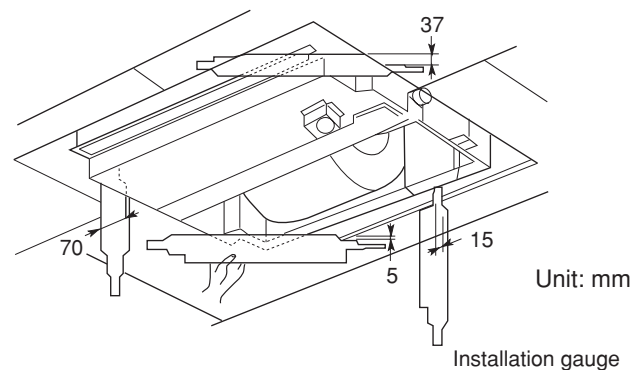

Fig. 3-9
(4) Adjust the distance between the unit and the opening in the ceiling to give clearances of 15 mm in the front and back directions and 70 mm in the right and left directions so that the height between the bottom surface of the flange of the unit and the bottom surface of the ceiling is 37 mm, and the air-intake side is 5 mm. To check these dimensions for positioning the unit, use the installation gauge which is taped on the unit. (Fig. 3-9)
(5) Confirm all clearances with the installation gauge as follows:
Improper clearance can lead to poor mounting of the ceiling panel, causing condensation and dripping. (Fig. 3-9)